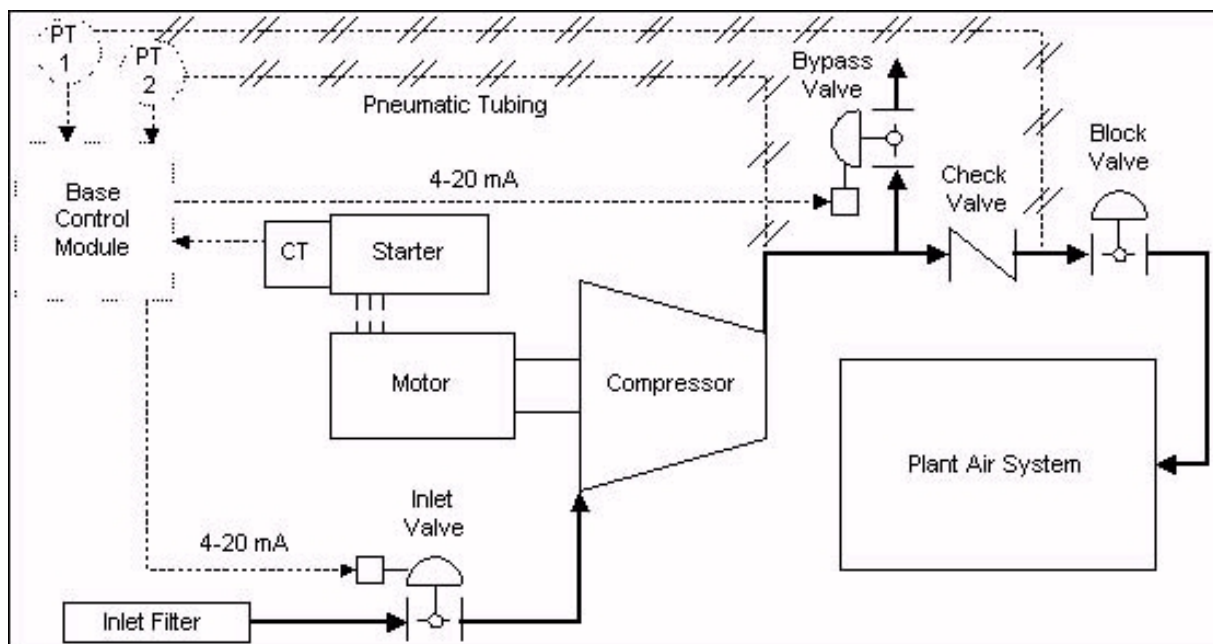

Figure 6.23 Plant Air System
- The block valve at the inlet to the plant air system (Figure 6.23) is closed.
The Bypass Valve Unload Point is selected to correspond to the check valve closing as shown in Figure 6.23 , since at this point the machine is not supplying the system. This position is found by running the machine at MinLoad and monitoring the System and Discharge pressures. When the System pressure is 5% of setpoint greater than the last stage pressure as shown in the System Folder, the check valve is assumed to be closed.